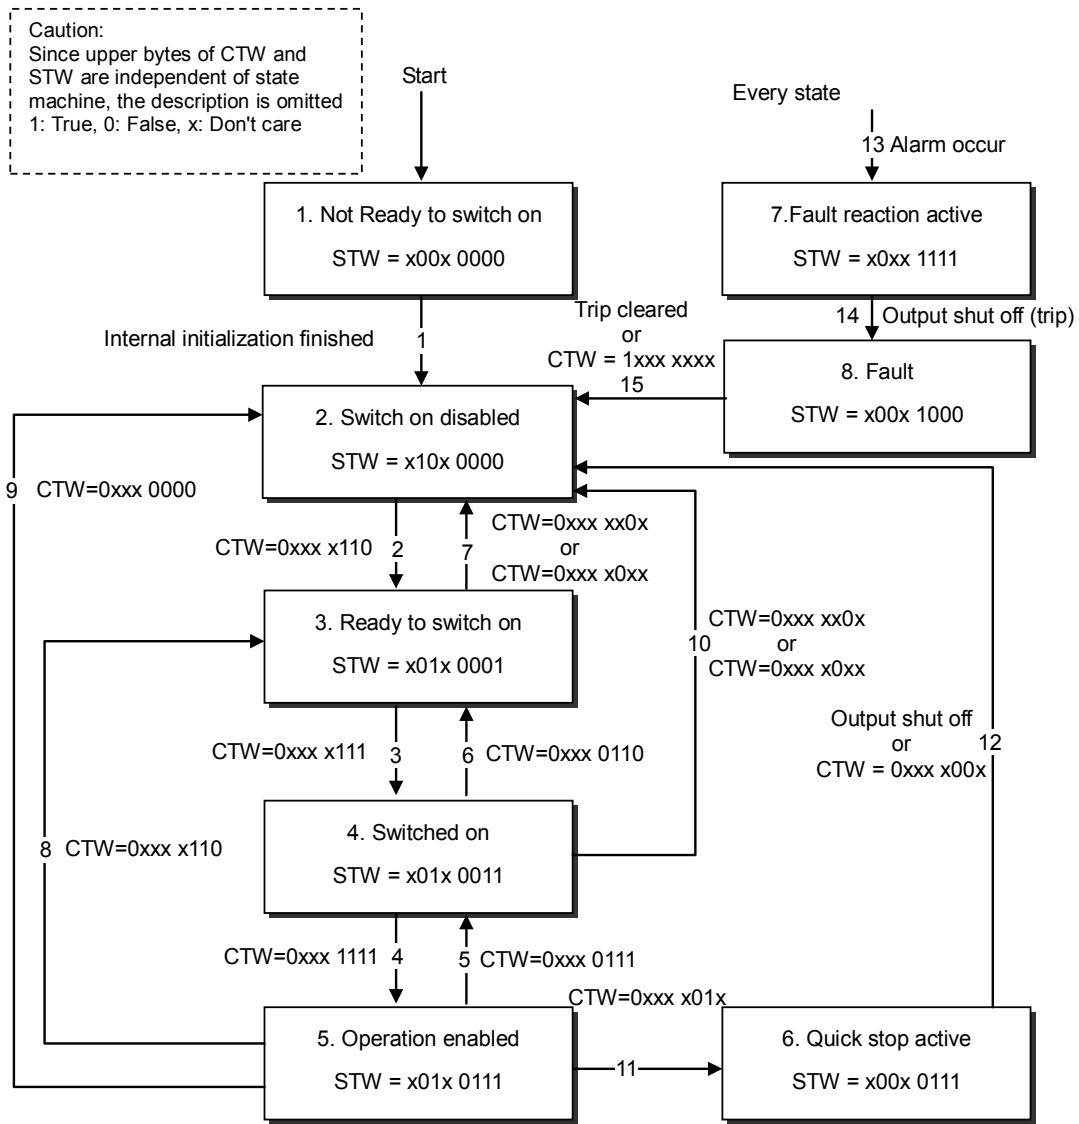

Figure 9.2-3 State Machine
- bits 0 to 3 : Operates the state change of state machine. Refer to Figure 9.2-3.
- bits 0 to 2, 5, 6 : Displays the state machine status. Refer to Figure 9.2-3.
To run the inverter, operate the state machine (state transition diagram) defined with DSP 402. The state of the state machine is changed by Controlword (CTW in the figure) and the state is monitored by Statusword (STW in the figure). The Figure 9.2-3 shows the state machine and the Table 9.2-18 shows the commands to the inverter during each state transition.